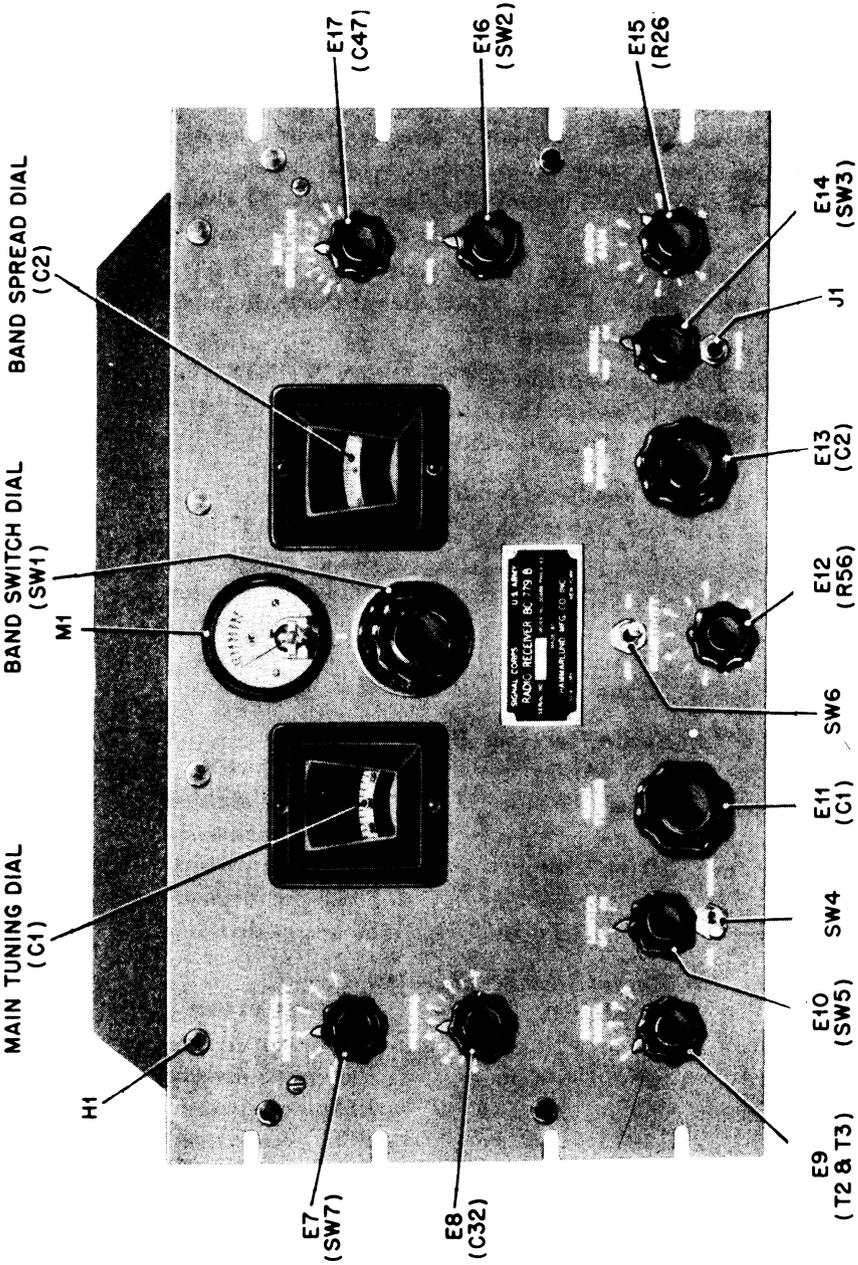

Figure 4. Radio Receiver BC-779-B
4. FREQUENCY BANDS.—The five frequency bands are marked in aluminum on the band-switch dial (FIG. 4). A large number of earlier models of this receiver already in the field can be identified only by the different frequencies shown on this dial. You can get the frequency band you want by turning the knob right or left until the band is on top (just beneath the up-and-down line above the dial).
a. Frequency Coverage.—**(1) Radio Receiver BC-779-B.—**
b. Besides the markings on the band-switch dial (FIG. 4), a mask with windows shows a calibrated scale on the MAIN TUNING dial (FIG. 4) to correspond with the band selected by the band switch. This operation is automatic—when you turn the band switch, the mask on the MAIN TUNING dial turns with it since they are geared together.
c. Band Spread.—A separate BAND SPREAD control (E13) gives you simplified tuning over a narrow range of frequency. The BAND SPREAD dial (FIG. 4) has a scale reading from 0 to 100 through about 170° . If set at 100, the frequency covered by moving the dial will extend from that shown by the setting of the MAIN TUNING dial to some lower frequency, depending on how far the BAND SPREAD dial is moved. The capacity of the band-spread capacitor (C2) increases as the scale approaches zero (0).
(1) To cover a specific range with the BAND SPREAD dial, first set the MAIN TUNING dial at the high-frequency end of the band you want to spread.
d. Earphones.—Plug your Headset HS-30 into the PHONES jack (J1, FIG. 4) in the lower right hand corner of the front panel of the receiver. Or you can connect the headset to the screw terminals marked PHONES on the rear edge of the chassis.
f. Earphone Operation.—For earphone operation, plug your earphones into the PHONES jack (J1, FIG. 4) provided for them on the front panel. Or you can connect the earphones to the PHONES terminals on the rear of the receiver chassis. These terminals are connected in parallel with the jack on the front panel.